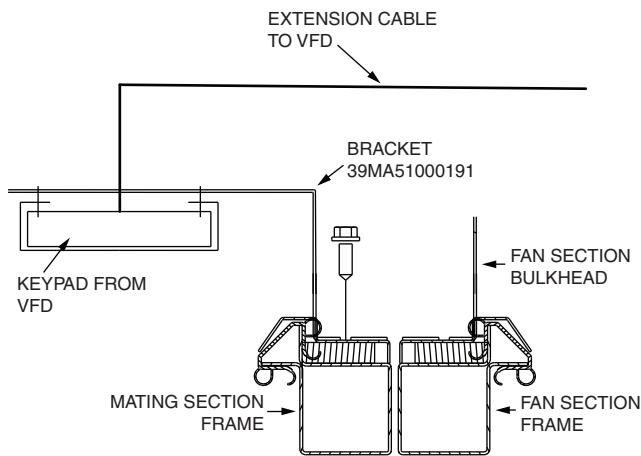

Fig. 158 — Remote Keypad Assembly Location
2. If VFD(s) is mounted on fan bulkhead panel at a shipping split, then the VFD remote keypad assembly is shipped inside the fan section. See Fig. 158.